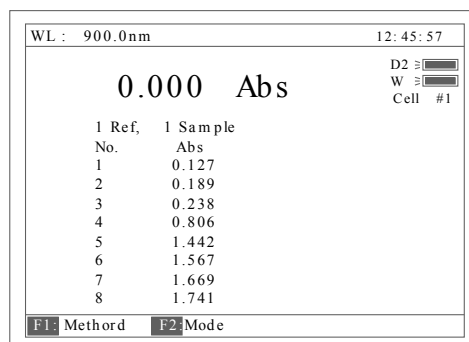

Fig 107
- Remove 8 references and put 8 samples into CELL NO.1-NO.8, Press the **[START]**, the results are taken **automatically** . Fig 107.